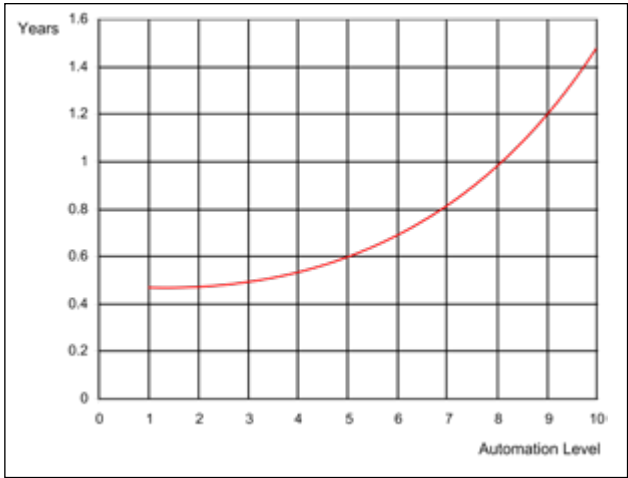

Figure 4.4 Time Required to Move a Sensor on the Perceptual Map 1.0 Unit at Automation Levels 1 Through 10
- 2. As you raise automation, it becomes increasingly difficult for R&D to reposition products short distances on the Perceptual Map. For example, a project that moves a product 1.0 on the map takes significantly longer at an automation level of 8.0 than at 5.0 (Figure 4.4). Long moves are less affected. You can move a product a long distance at any automation level, but the project will take between 2.5 and 3.0 years to complete.